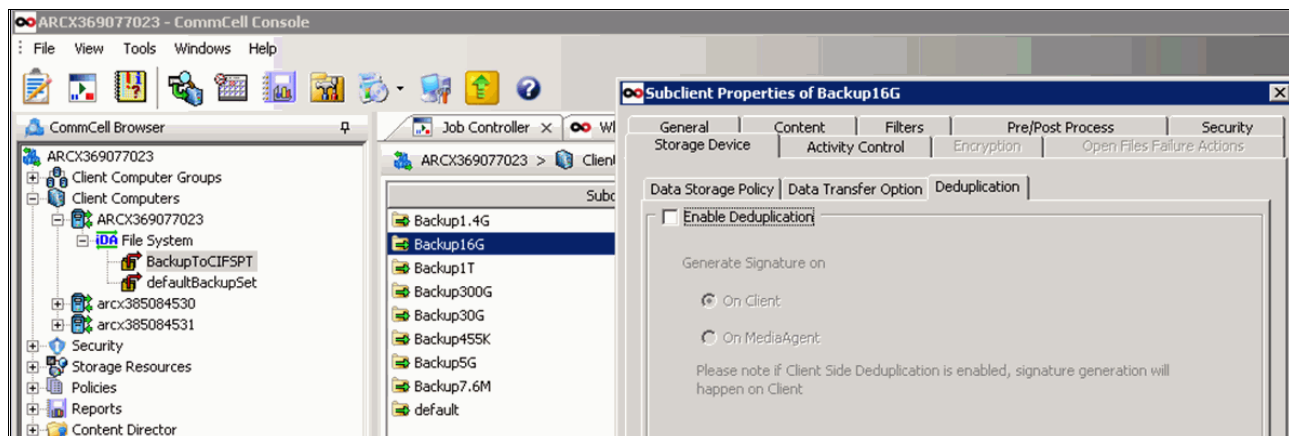

Figure 19-21 Disable deduplication
- Click the **Deduplication** tab and clear the **Enable Deduplication** check box for this subclient (Figure 19-21).